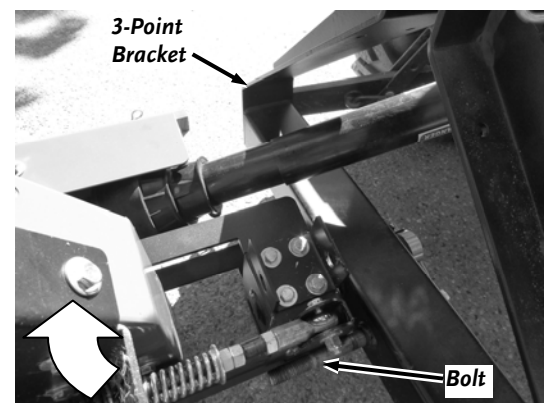

Figure 30
2. Lift the Trimmer Body up to a vertical position. With the head of the Bolt facing the Tractor, install the Bolt all the way into the transport hole of the 3-Point Bracket (**Figure 30**).